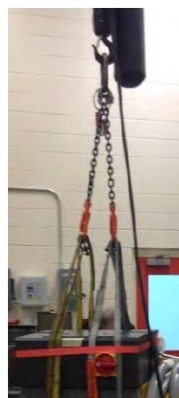

Figure 2-2 Straps and Lifting Device
- c. Put the webbed straps in position along the sides of the ASC and attach them to the lifting device. Refer to Figure 2-2.